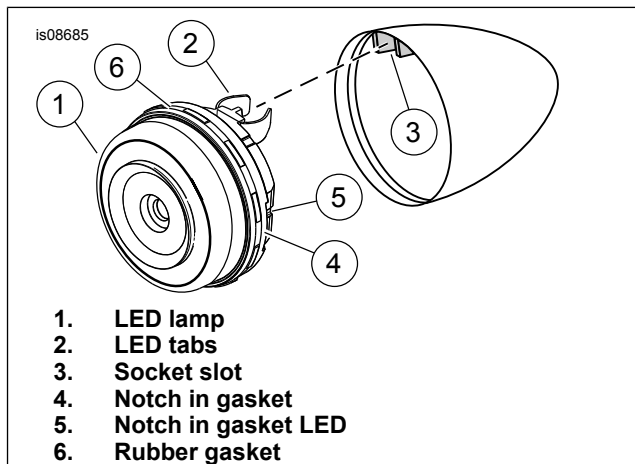

Figure 4. LED Tab and Lamp Housing
14. See Figure 4. Align notch on gasket (4) with notch on LED lamp (5).
15. Align tabs (2) with socket slot (3). Slide LED lamp (1) into housing keeping LED lamp even and square to housing. The LED lamp is held in place with friction from the rubber gasket (6).